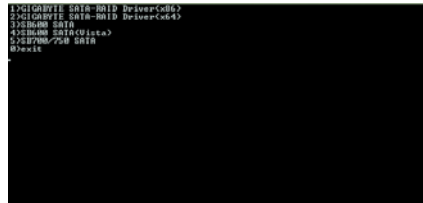

Figure 2
Step 2: When the controller menu (Figure 2) appears, remove the startup disk and insert the blank formatted disk. Select the controller driver by pressing the corresponding letter from the menu. For example, from the menu in Figure 2, to install the operation system to your RAID/AHCI hard drives, select (5) SB700/750 SATA for the AMD SB700 SATA controller. Your system will then automatically zip and transfer this driver file to the floppy disk. Press <0> to exit when finished.
Use an alternative system and insert the motherboard driver disk. From your optical drive folder, double click the MENU.exe file in the BootDrv folder (Figure 3). A command prompt window will open similar to that in Figure 2.